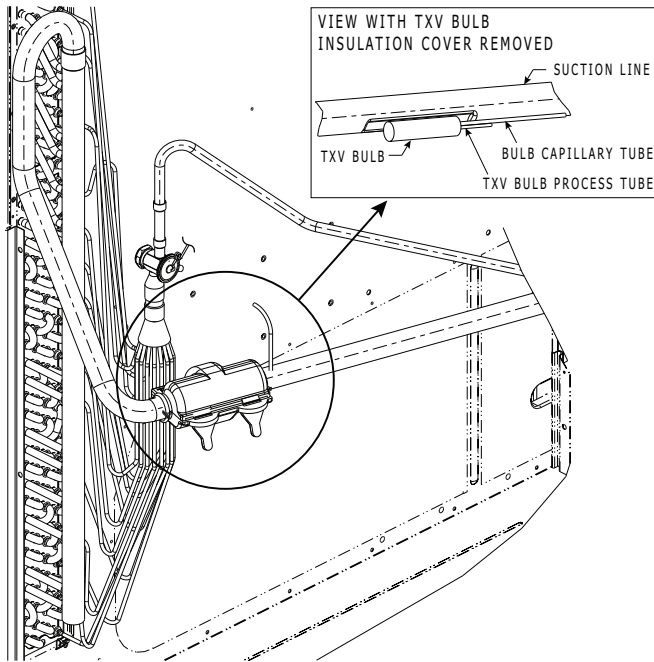

Fig. 27 — TXV Valve and Sensing Bulb Location
8. Attach TXV bulb in the same location where the original (in the sensing bulb indent) was when it was removed, using the supplied bulb clamps. See Fig. 27.